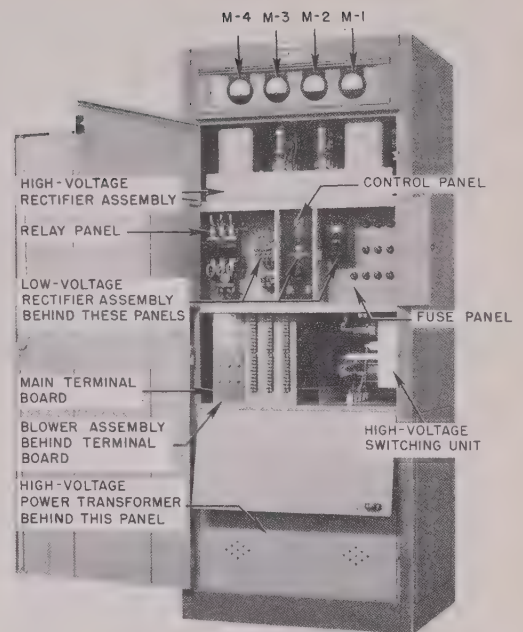

Figure 4. Rectifier Power Unit MODEL 36D, operating components
(1) The rectifier converts 220-volt, three-phase, 60-cycle power, which is obtained from an external power source, into the correct type of power required for the operation of Radio Transmitter Model 96D and associated equipment.
(2) The rectifier is housed in a built-up steel cabinet 72 inches high, 29-1/2 inches wide, and 27-3/4 inches deep. The components of the rectifier are mounted on four built-in steel shelves. Both the front and rear of the rectifier cabinet are equipped with doors or panels to provide complete and easy access to the equipment. Four voltmeters are located at the top front of the cabinet. Three of the voltmeters give visual indication of the output voltages, and the fourth gives visual indication of the input voltage. When the door on the front of the rectifier is opened, the control panel and various safety panels are exposed. All the controls for the operation of the rectifier are located on the control panel (fig. 4).